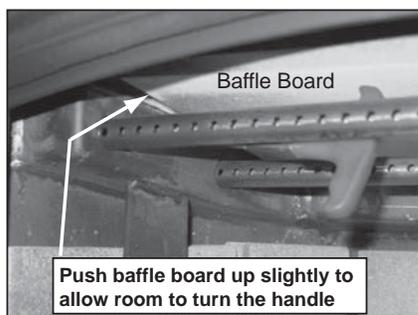

Figure 33.1
3. With a 3/16" Allen wrench, remove the front manifold tube retainer bolts on the air channel under the end of the front tube. **Figure 33.1.**